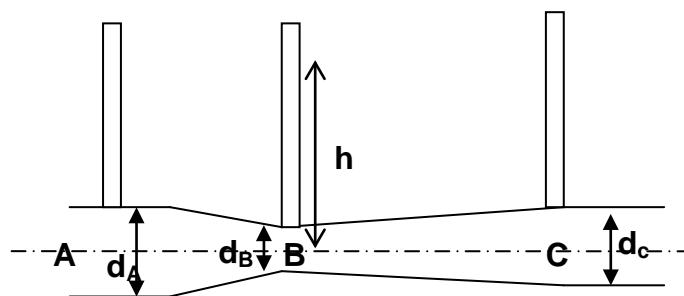

Figure 7 / Rajah 7
- [b] In Figure 7 friction loss between A and B is negligible while between B and C the loss is $0.15(V_B^2/2g)$. Given $h = 750$ mm, diameter A and C is 250 mm, diameter B = 100 mm. Find the pressure heads at A and C if the liquid is flowing through the circular pipe from A to C at the rate of 280 L/s.